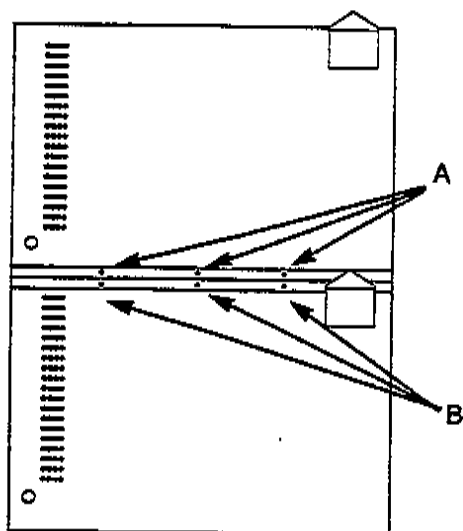

FIGURE 10
7. Move to the rear of the ovens and remove screws (Items "A" and "B") in Figure 10.